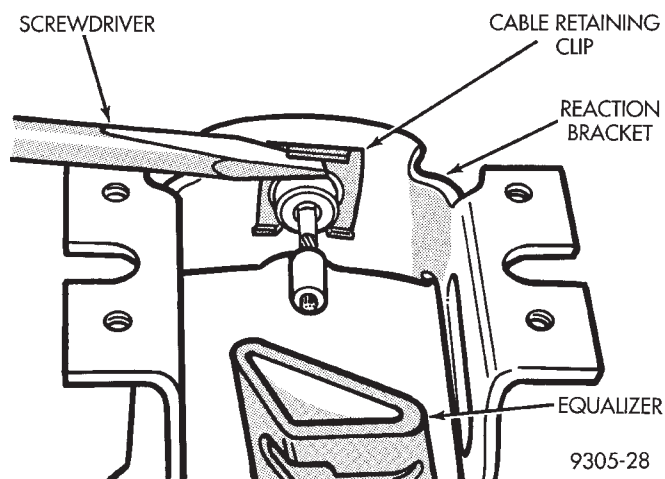

Fig. 110 Park Brake Cable Retaining Clip
(9) Remove the front park brake cable to reaction bracket retaining clip, by prying it off cable using a screwdriver (Fig. 110).